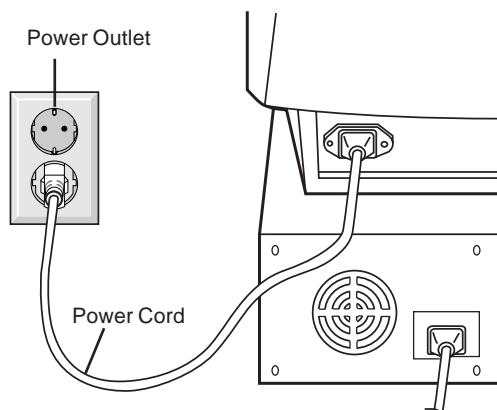

Figure C.1
6. Connect one end of the power cord to the AC inlet on the back of the monitor and the other end to the power outlet (**Figure C.1**).